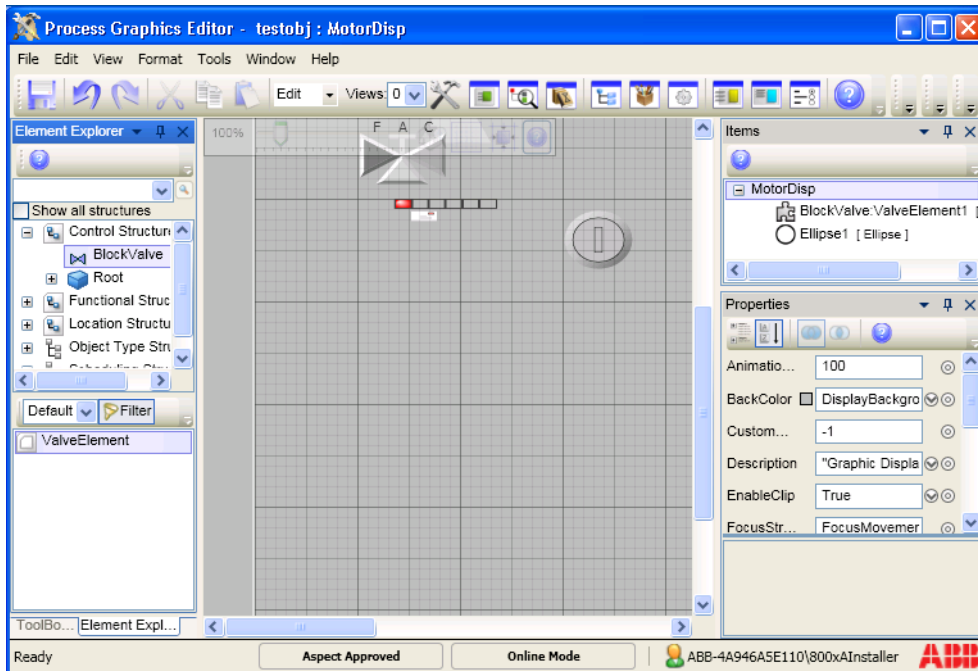

Figure 9. Inserting PLC Connect Element in Graphic Display
7. Double-click the element to add it to the edit panel of the Graphics Builder as shown in Figure 9.